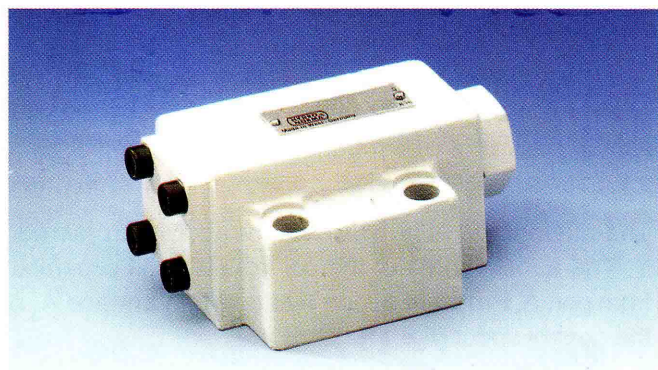

Fig. 13: Pilot operated check valve
- pipe mounting (threaded connections) (fig. 13)